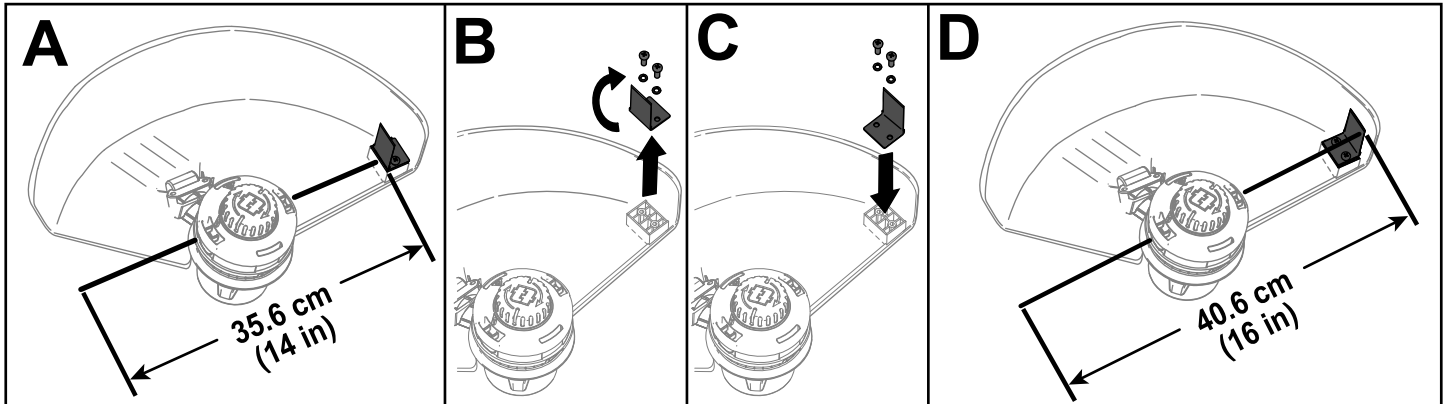

Figure 11
The trimmer comes from the factory with a cutting swath of 36.6 cm (14 inches) as shown in A of Figure 11. Refer to the following instructions to adjust the swath to 40.6 cm (16 inches) as shown in D of Figure 11.
1. Remove the swath blade from the bottom of the guard by removing the 2 screws holding it in place using the provided Allen wrench (B of Figure 11) and rotate the swath blade 180°.
2. Once the swath blade is rotated, install it onto the guard using the 2 screws previously removed (C of Figure 11).